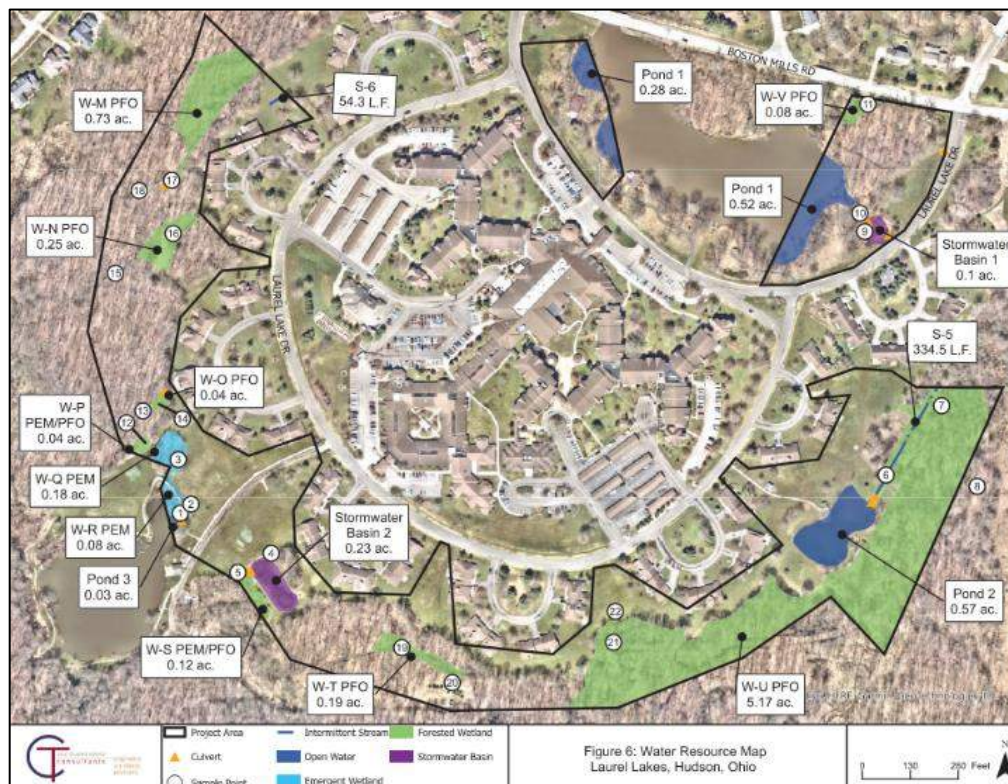

Fig. 5
Updates to Application: The applicant has submitted a letter with the current Planning Commission submittal. The letter was written by Carrie Ricker, Project manager and profession wetland specialist, of Verdantas (formerly CT Consultants), the environmental science and engineering firm that has completed the environmental documentation for the site . The letter states: *Verdantas, LLC (formerly CT Consultants, Inc.) prepared the Wetland Delineation Report for the Laurel Lake, Hudson, Ohio property in August 2022. We have been requested to provide clarification around Pond-1 jurisdiction and the type of surface water feature this is considered. Pond-1 as labeled on the attached Water Resource Map for Laurel Lake (see Figure 5)., is considered a tributary impoundment under (a)(3) of the Waters of the United States (WOTUS) Regulatory Ruling. Pond-1 does not contain wetland vegetation and is not considered a wetland by definition. This feature is an open water impoundment that extends upstream as a part of Lake Forest on the north side of Boston Mills Road. This feature is an impoundment of an unnamed tributary to*